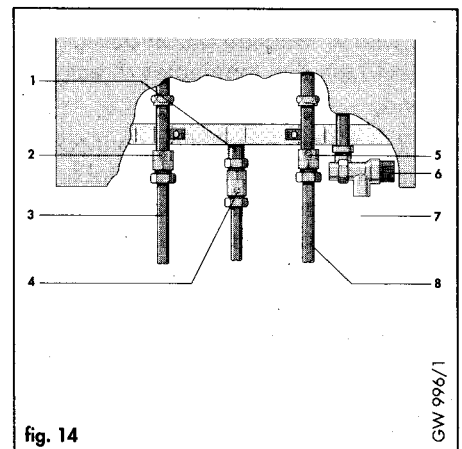

fig. 14
4.5.3 Pipework connections (fig. 14)
Figure 14 shows the central heating, (2,5) gas (1) and pressure relief valve (6) connections.
The appliance contains the pressure relief valve required for a sealed system (6, fig. 14). Connect a discharge pipe not less than 15 mm diameter to the outlet of this valve.
The boiler is supplied with a 20 x 15 mm gas service valve (4, fig. 14). Fit the 20 mm compression fitting to the boiler gas inlet (1, fig. 14) and tighten. Install a gas supply pipe not less than 15 mm diameter and connect to the gas service valve. (Ensure the gas supply pipework is adequately sized such that a 20 mbar - (8" w.g.) - gas pressure is available at the boiler inlet at full flow rate). Tighten all union connections.